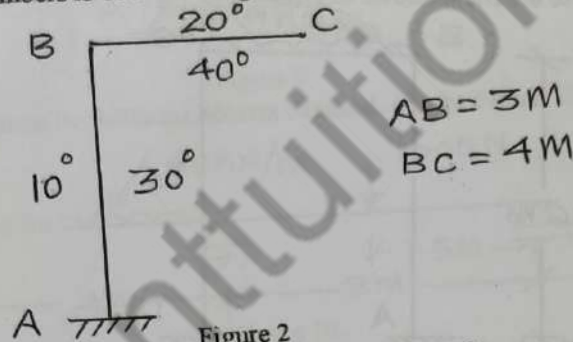

Figure 2
- b) A rigid frame shown in Figure 2 is subjected to temperature variations. Determine vertical deflection at point 'C'. Take $\alpha = 12 \times 10^{-6} / ^\circ\text{C}$. Depth of all members is 600 mm. Neglect the effect of axial forces. 05